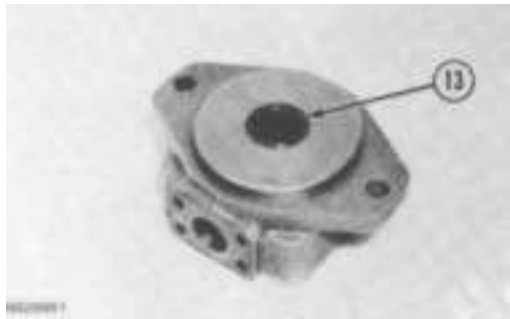

FIGURE 7-44
8. Install the seal (13, Figure 7-44) into the body. The lip of the seal must face toward the bearing.